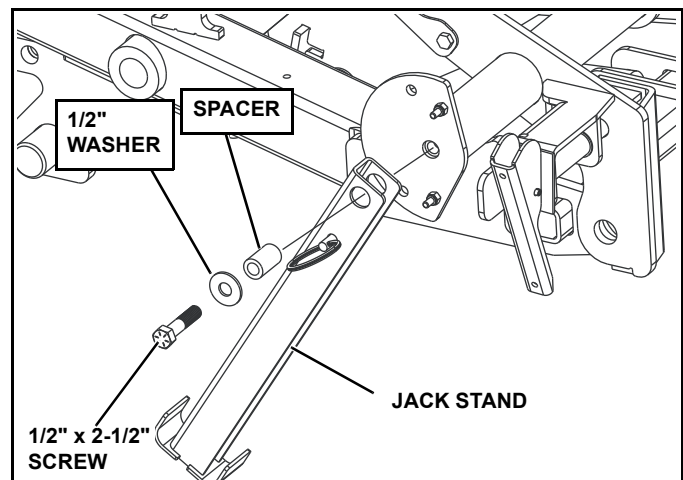

Figure 1-15
27. Place jack stand over drivers side bracket located at the end of the tube on the lower light lift bar. From the jack stand parts bag insert the spacer and secure with a 1/2" washer and 1/2" x 2-1/2" screw (See Figure 1-15).